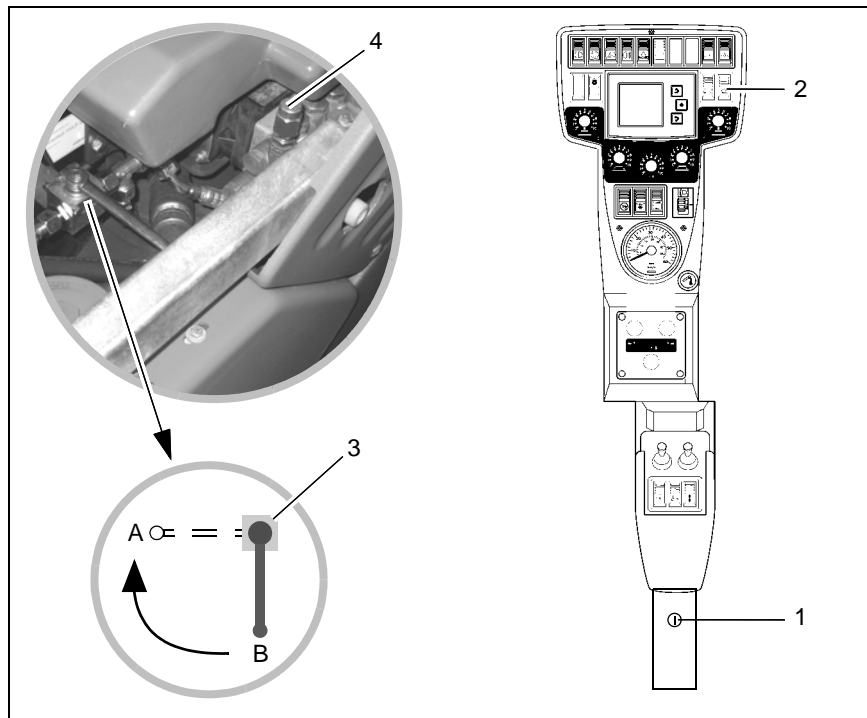

Fig.4
2. Turn the ignition starter switch (Fig. 4/1) to start the engine.
The engine will not start if the switching valve (Fig. 4/3) is still on when you try to start the Citymaster 2000!
3. Lift the sweepings container (Fig. 4/2) and set the switching valve (Fig. 4/3) to turn on the pressure washer. A = ON; B = OFF
5. Set the pressure regulator (Fig. 4/4) to the desired working pressure.